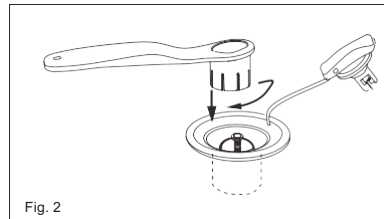

Fig. 2
3. Always carefully check and ensure the air valve is not leaking before using the surfboard. If the air valve is leaking, use the provided wrench to tighten the valve. To securely tighten the valve, hold the valve from the bottom of the surf board and turn the wrench clockwise. After you have ensured the valve is not leaking, tighten the cap to close the valve (Fig. 2). Attention: Don't adjust the air valve when the board is in use.